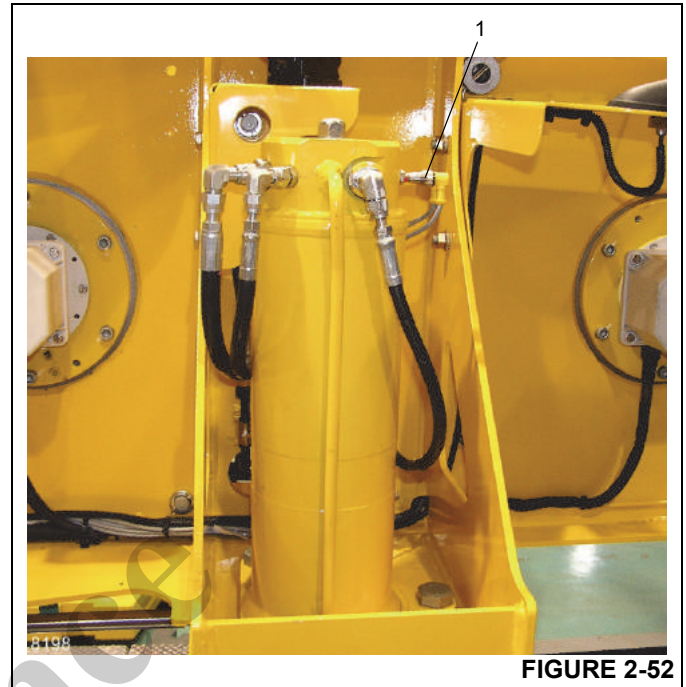
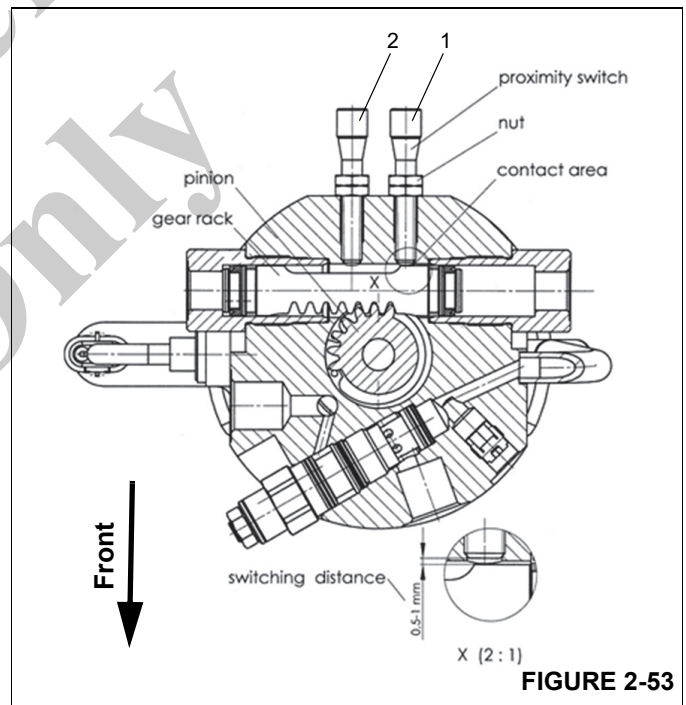

FIGURE 2-52
FIGURE 2-53
The counterweight lift cylinder (Figure 2-52) incorporates a rack and pinion system to rotate the rod to lock and unlock the cylinder in the counterweight.
The two proximity switches are used to signal the ECOS system, Refer to *Section 3, Operating Controls and Procedures* in the *Operator's Manual*, that the cylinder is locked or unlocked. The left proximity switch (1, Figure 2-52 and Figure 2-53) detects the rack in the locked position. The right proximity switch (2, Figure 2-53) detects the rack in the unlocked position.
2. Loosen the locknuts on the left proximity switch (1, Figure 2-52 and Figure 2-53).
4. Unscrew the switch  $\frac{3}{4}$  turn, which equals 0.75 mm (0.03 in). The distance between the switch and rack should be 0.5 to 1.0 mm (.02 to .04 in) as shown in Figure 2-53.
2. Loosen the locknuts on the right proximity switch (2, Figure 2-53).